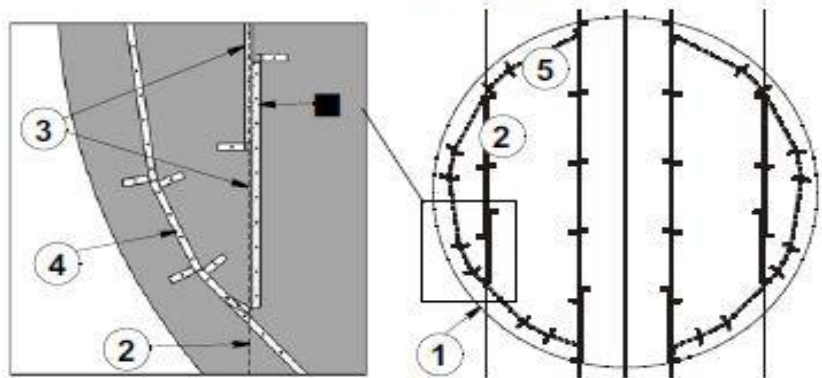

Figure 20. Option 2: Overlap a Support
2. The last LONG Support does not reach the Outer Half Circle. One additional LONG or SHORT Support (whichever length best fills the remaining distance) is set against the last Support to **overlap** it and meet the Half Circle. The two overlapped Supports are clipped together, and the end Leg of the added Support is bent as necessary to meet the Outer Half Circle. See **Figure 20**.
See **Figure 20**.